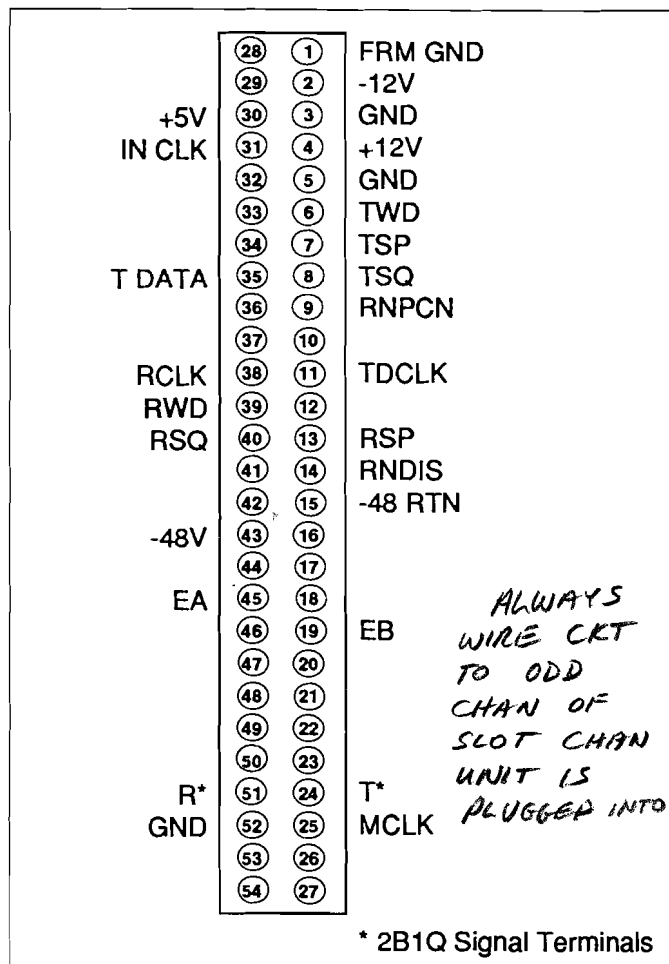

FIGURE 3. Connector Pin Assignments
2.03 The U-BR1TE occupies one card position in the D4 channel bank. The connector pin assignments are illustrated in Figure 3.